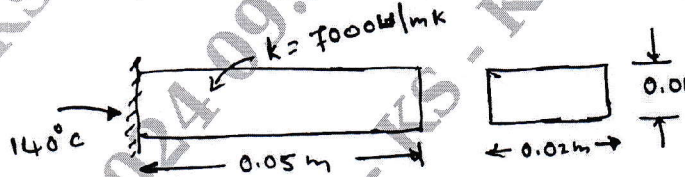

Fig.Q.7(b)
b. Determine the temperature distribution in a rectangular fin shown in Fig.Q.7(b). Assume steady and only conduction process. Heat generated inside the fin as 400W/m^3 . (10 Marks)